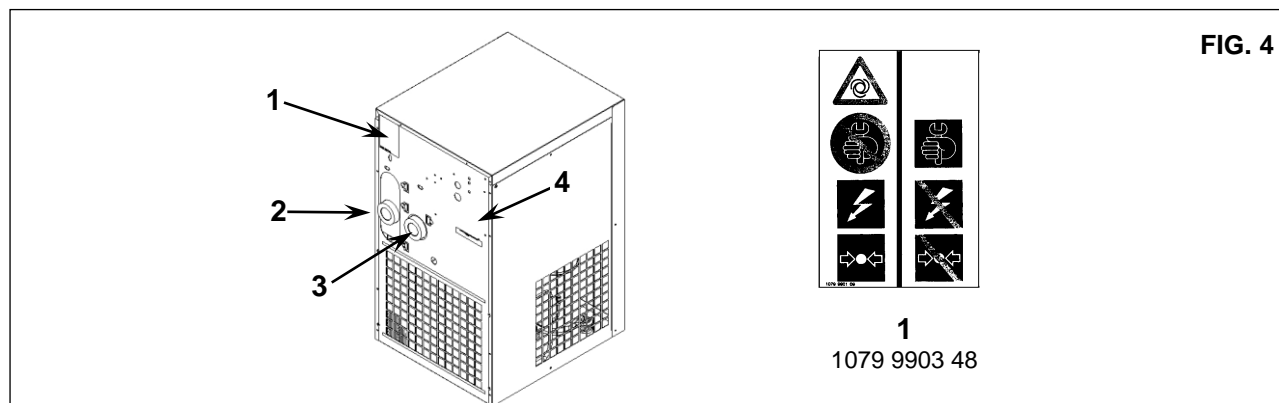

FIG. 4
8.1 POSITION OF THE DANGER PLATES (Fig. 4)
8.2 POSITION OF THE DATA PLATES (Fig. 4)